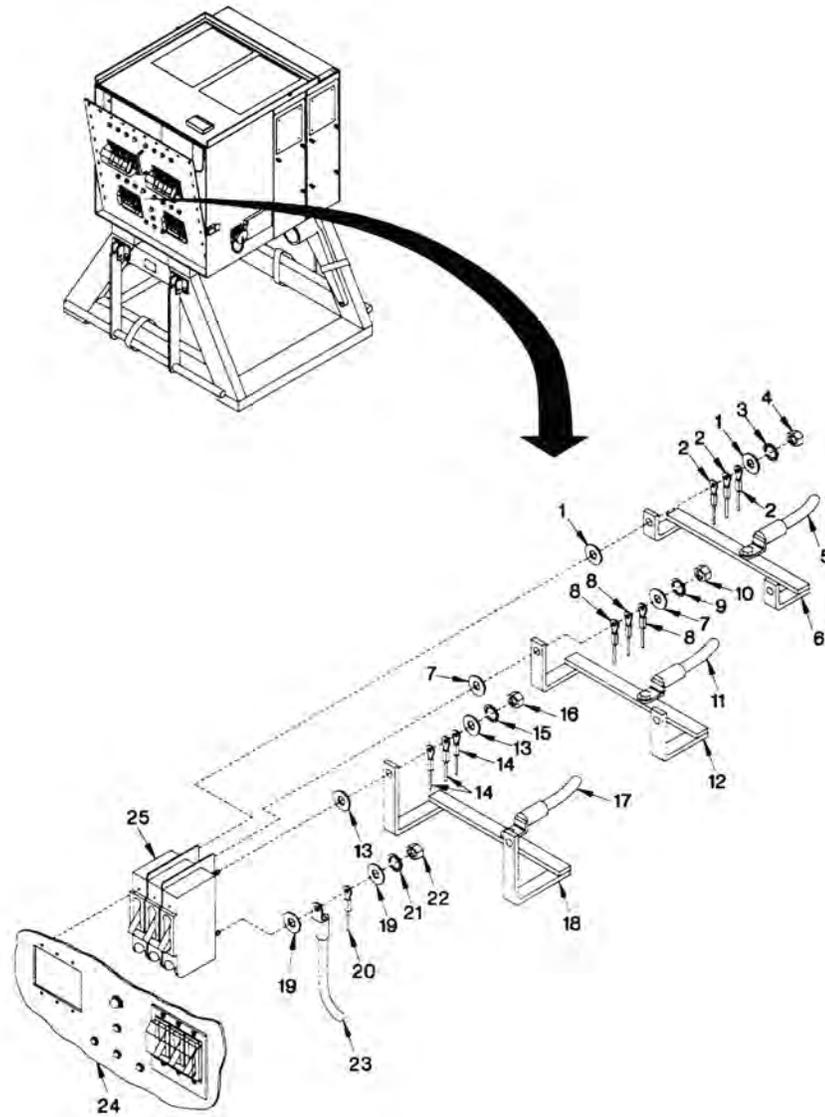

Figure 1. Circuit Breaker CB3 (PP-8440/ASM Only).
11. Connect three wires (Figure 1, Item 23) to rear of circuit breaker/CB3 (Figure 1, Item 25) by installing six flat washers (Figure 1, Item 19), three locking star washers (Figure 1, Item 21), three indicator wires (Figure 1, Item 20) and three nuts (Figure 1, Item 22). Remove all tags.
12. Connect buss bar C2 (Figure 1, Item 18) to CB3 (Figure 1, Item 25) and CB4 by installing four flat washers (Figure 1, Item 13), two nuts (Figure 1, Item 16), six indicator wires (Figure 1, Item 14) and two locking star washers (Figure 1, Item 15). Ensure wire (Figure 1, Item 17) on rear of buss bar (Figure 1, Item 18) is securely attached.
13. Connect buss bar B2 (Figure 1, Item 12) to CB4 (Figure 1, Item 25) and CB2 by installing four flat washers (Figure 1, Item 7), two nuts (Figure 1, Item 10), six indicator wires (Figure 1, Item 8) and two locking star washers (Figure 1, Item 9). Ensure wire (Figure 1, Item 11) on rear of buss bar (Figure 1, Item 12) is securely attached.
14. Connect buss bar A2 (Figure 1, Item 6) to CB1 (Figure 1, Item 25) and CB2 by installing four flat washers (Figure 1, Item 1), two nuts (Figure 1, Item 4), six indicator wires (Figure 1, Item 2) and two locking star washers (Figure 1, Item 3). Ensure wire (Figure 1, Item 5) on rear of buss bar (Figure 1, Item 6) is securely attached. Ensure all connections correspond to correct power phase. Remove all tags.
15. Perform procedures in WP 0027 to secure circuit breaker panel (Figure 1, Item 24).